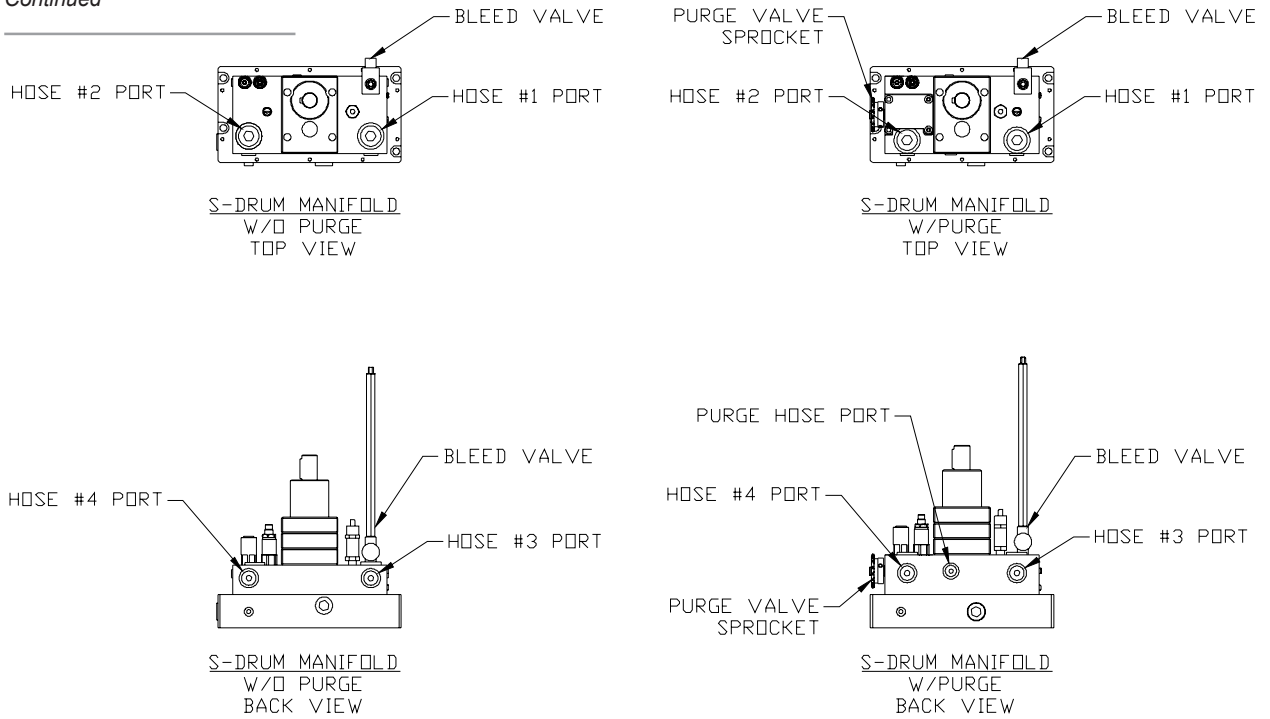

Figure 4-10. Manifold Hose Locations
5. Attach this end of the glue hose to the fluid outlet fitting in the manifold (Figure 4-10).